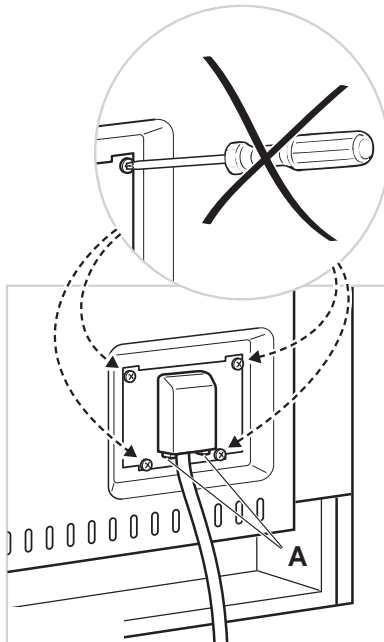

Fig. 14 Terminal block
- 1 Unhook the terminal board cover by inserting a screwdriver into the two hooks 'A' (fig. 14).